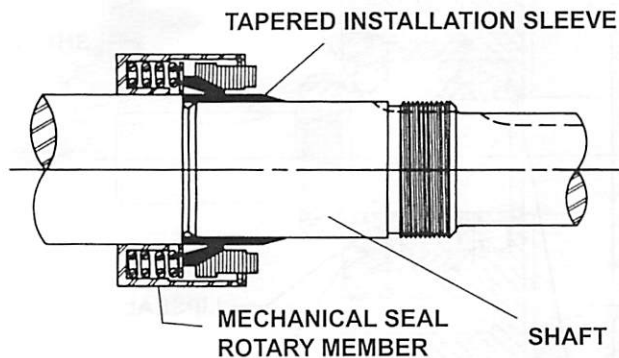

FIGURE 11
- Place tapered installation sleeve on the shaft. Coat tapered sleeve and inside of the rotary member with a generous quantity of light oil. Grease is not recommended. Start rotary member on shaft and over tapered sleeve. Refer to Figure 11.